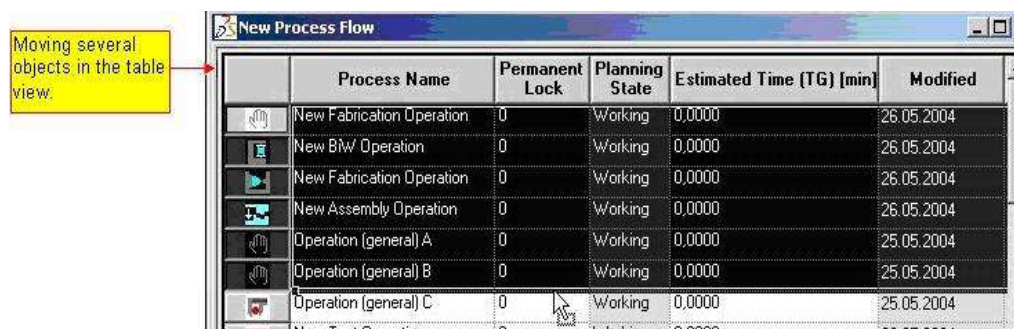

Figure 168: Moving Several Objects at the Same Time
- 5) Select the relation in the dialog. *Please refer to the Figure 168.*